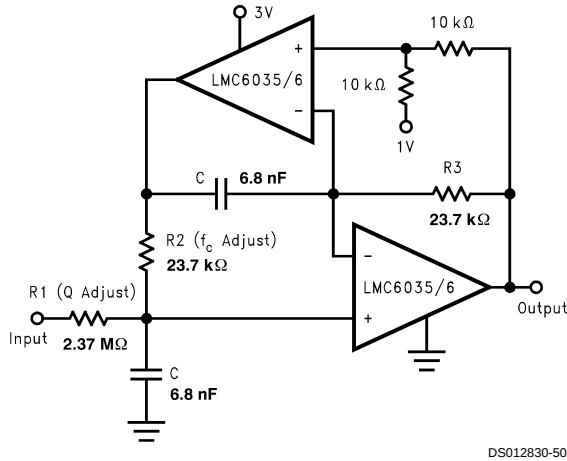

FIGURE 7. 2 Pole, 1 kHz Active, Bandpass Filter
The dual amplifier bandpass (DABP) filter features the ability to independently adjust f_c and Q . In most other bandpass topologies, the f_c and Q adjustments interact with each other. The DABP filter also offers both low sensitivity to component values and high Q s. The following application of Figure 7, provides a 1 kHz center frequency and a Q of 100.
- First choose a center frequency (f_c). Figure 7 represents component values that were obtained from the following computation for a center frequency of 1 kHz.